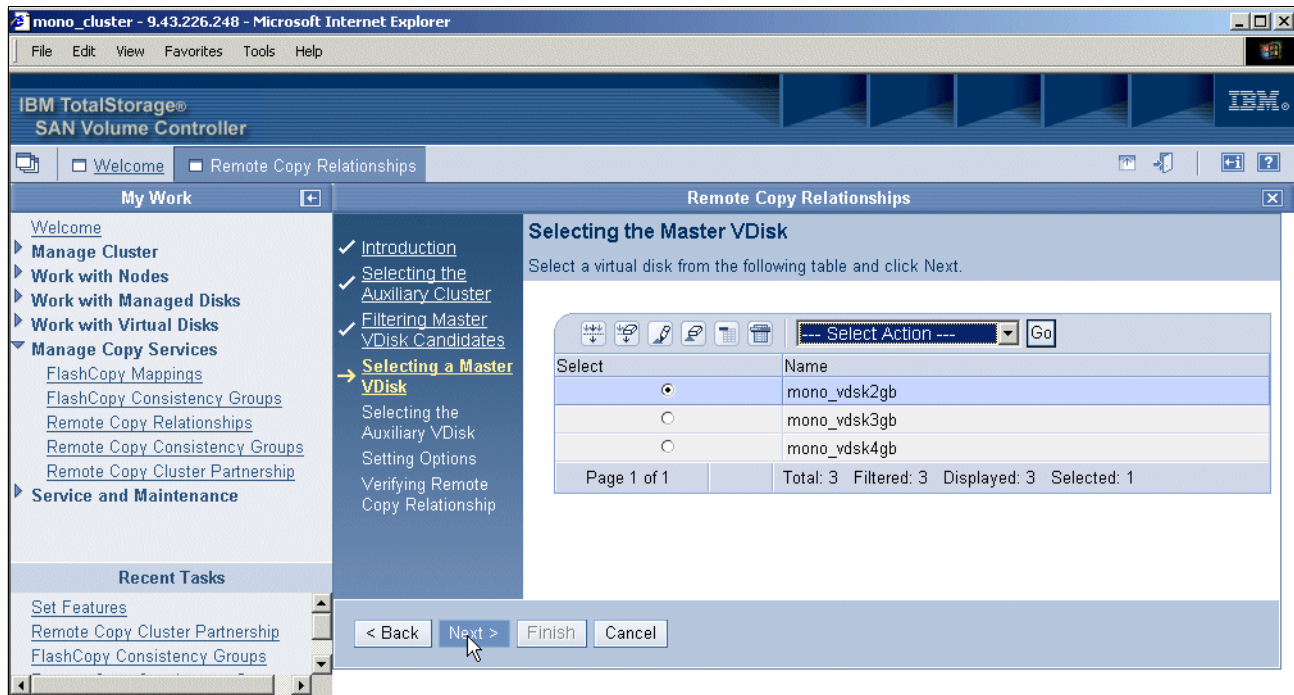

Figure 11-21 Setting the Master vDisk
6. Select the disk that you want to use from the list as shown in Figure 11-21. Click **Next**.